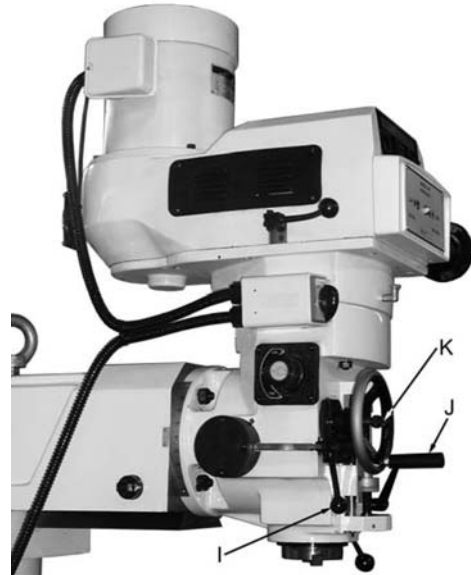

Figure 5
- I. **Feed Control Lever** (I, Fig. 5) - located on the left side of the head. Engages overload clutch on pinion shaft when the lever is positioned to the left. Stays engaged until quill stop comes in contact with micro adjusting nut (forcing feed control lever to drop out automatically), or until lever is released manually by positioning lever to the right.
- J. **Manual Feed** (J, Fig. 5) - located on the left front of the head. Feed reversing knob (K, Fig. 5) must be in the neutral position. The feed control lever (I, Fig. 5) must be engaged. **Note:** manual feed handle and handwheel may be taken off when not in use.
- K. **Feed Reversing Knob** (K, Fig. 5) - located in center of manual feed handwheel. Position of the knob depends upon the direction of spindle rotation. If boring with right hand cutting tools, pull feed knob towards operator until clutch becomes engaged. Neutral position is between forward and reverse position.